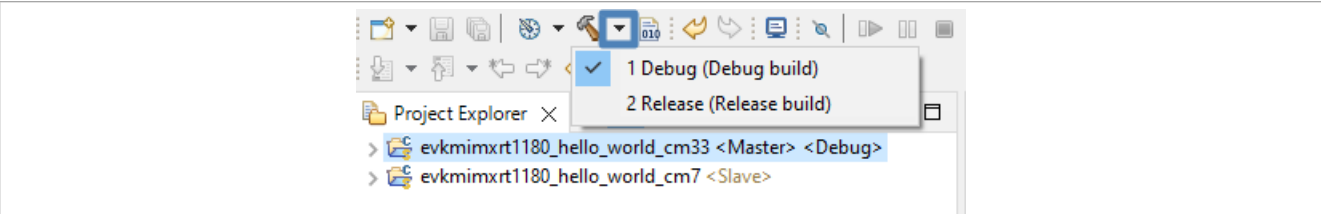

Figure 15. Selection of the build target in MCUXpresso IDE
3. Now, two projects should be imported into the workspace. To start building the multicore application, highlight the hello\_world\_cm33 project (multicore master project) in the Project Explorer. Then choose the appropriate build target, **Debug** or **Release**, by clicking the downward facing arrow next to the hammer icon, as shown in Figure 15. For this example, select **Debug**.